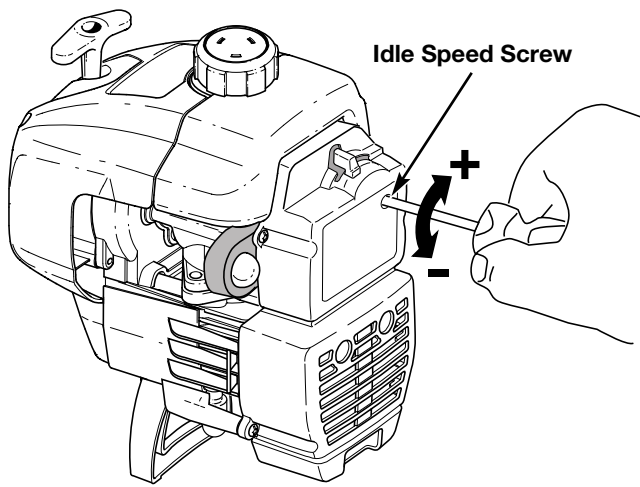

Fig. 29
The idle speed of the engine is adjustable through the Air filter/Muffler cover (Fig. 29).
2. Release the throttle trigger and let the engine idle. If the engine stops, insert a small phillips or flat blade screwdriver into the hole in the air filter/muffler cover (Fig. 29). Turn the idle speed screw in, **clockwise**, 1/8 of a turn at a time (as needed) until the engine idles smoothly.